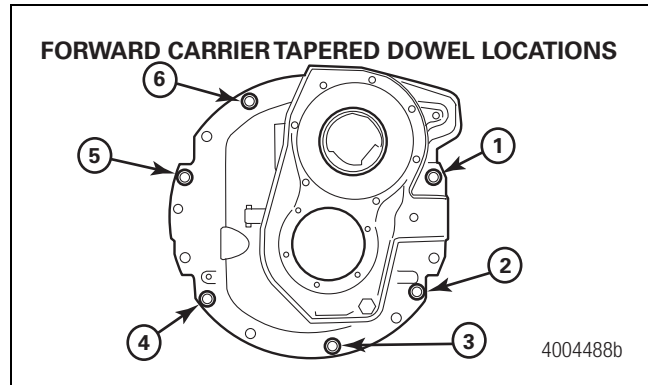

Figure 3
- A. For RP-164 and RD-164 Series forward axles, install four 2-inch capscrews and two 3.5-inch capscrews to secure the tapered dowels. Figure 3. Tighten the capscrews in a crisscross pattern to 80-100 lb-ft (109-136 N•m). **ⓘ**